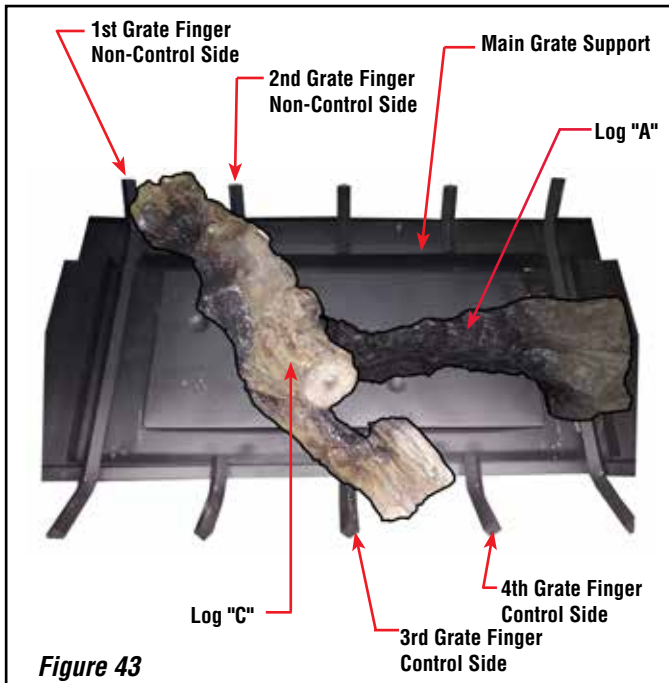

**Figure 41**
2. Begin log installation from the control side of the unit. Pilot and orifice should be on the right side of the burner assembly (see **Figure 41**).